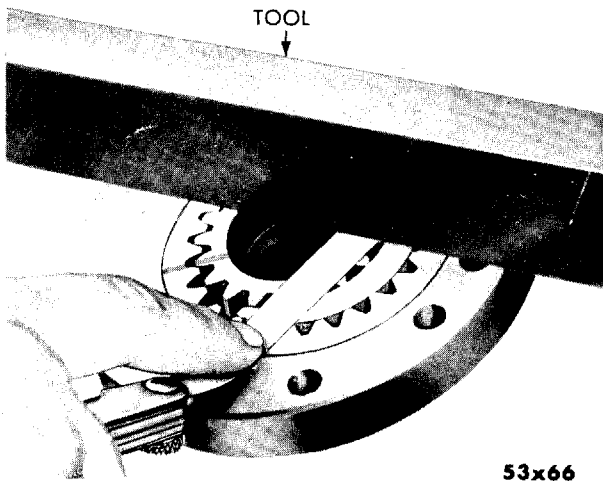

Fig. 18—Checking Clearance Between Pump Body and Gears
(3) Using straightedge, Tool C-3335, and feeler gauge, check clearance between pump housing face and face of gears as shown in Figure 18. Clearance limits are from .001 to .003 inch.